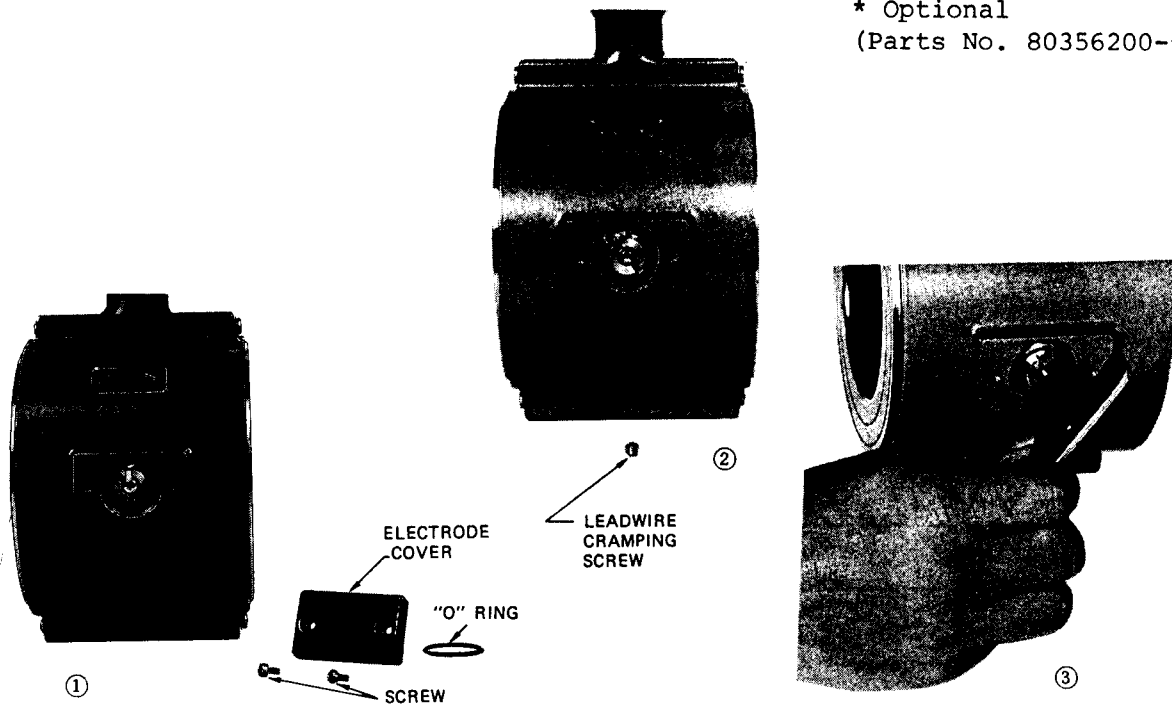

Figure 7-1. Removing the Electrodes
- 1) When removing the electrodes alone (Applicable to splashproof type only) (See Figure 7-1)
- c) Remove the electrode covers and disconnect the electrode leadwires. (See Figure 7.1.) Remove the springs and other retaining parts of the electrodes using the electrode remover* and then take out the electrodes.